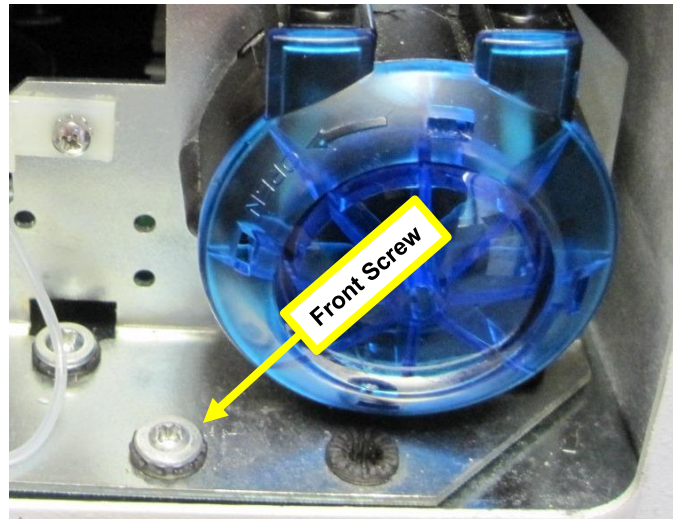

Figure 9
3. Remove the front screw on the peristaltic pump Figure 9 and set the entire sub-assembly aside.